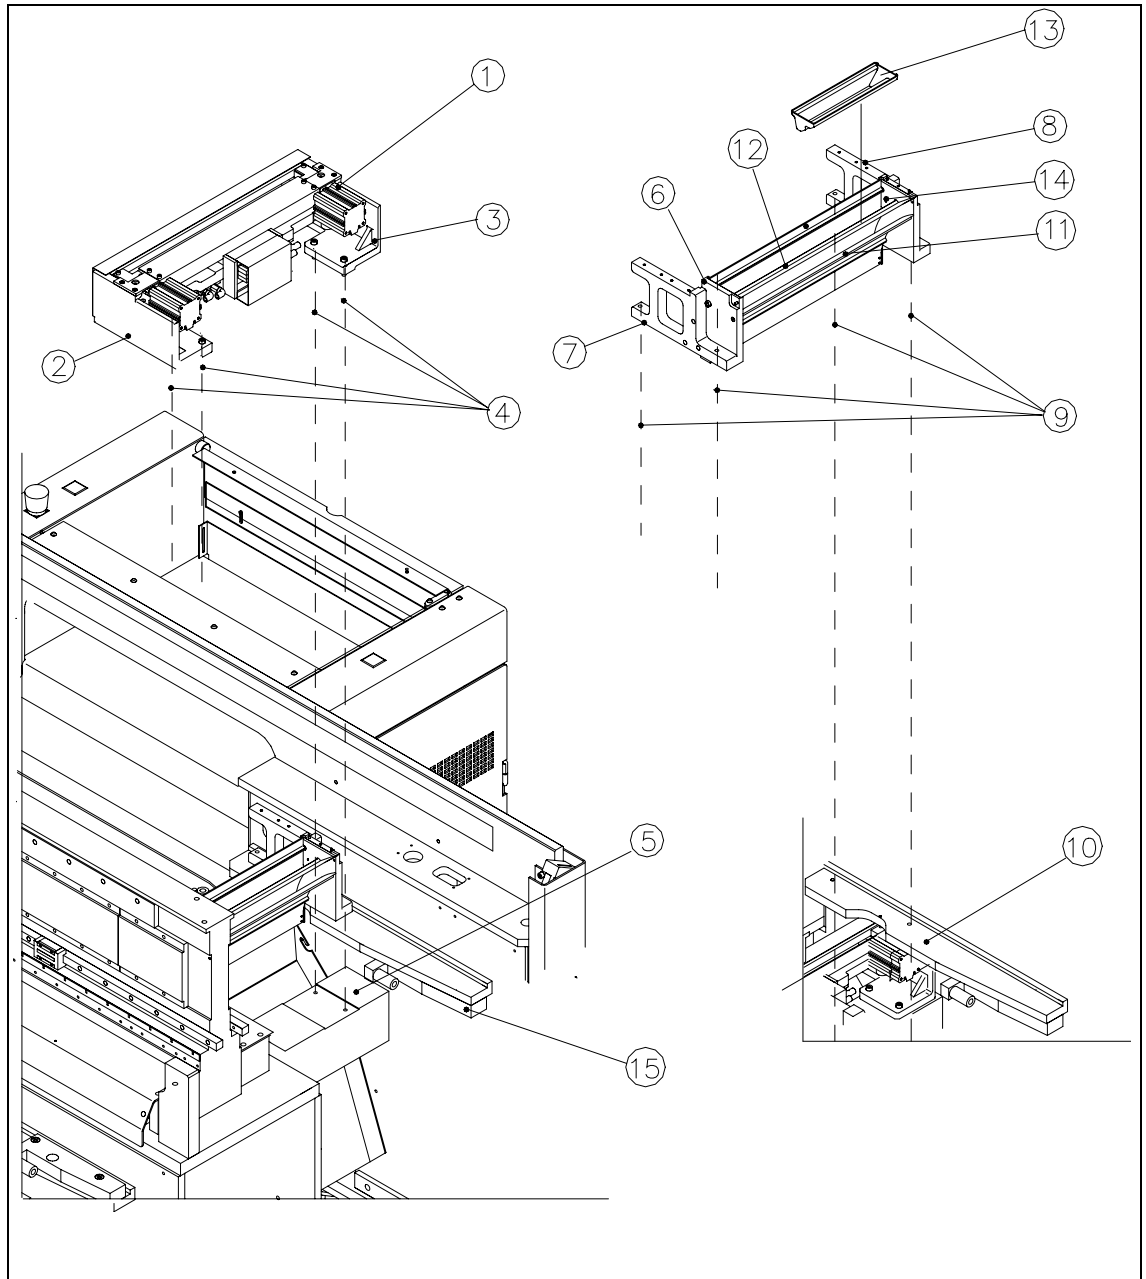

Fig. 5.4.1 Overview of Pneumatic Cutter Version 04 and Empty-Tape Duct Version 03
Key to Fig. 5.4.1:
- Loosen the screws fastening the empty-tape duct assembly (see Fig. 5.4.1) and lift the duct out of the machine.
- Undo the fasteners for the stop buffer assembly on left- and right-hand side of the machine frame (two M8 socket hex head cap screws on each side, see Fig. 5.4.1 -> 15) under the surface supporting for the component table.
- Loosen the screws fastening the cutter to the machine frame (2 screws, M6, on the left and right retaining bracket, see Fig. 5.4.1 -> 2, 3 and 4):